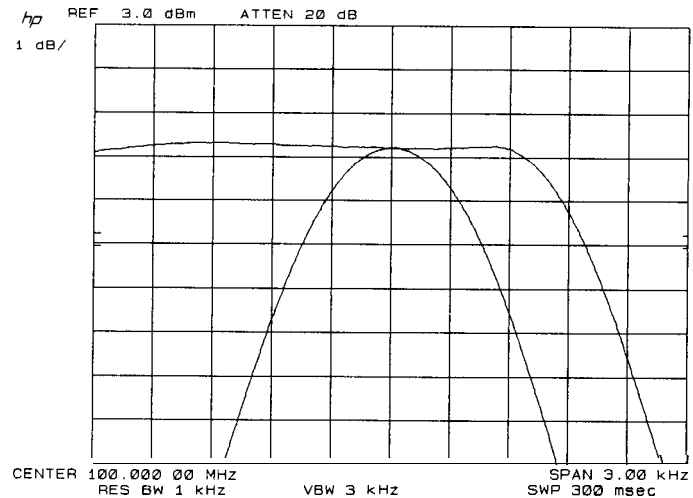

Figure 3-66. Typical Tuning Range of A7A2 100 MHz VCXO
- Adjust A7A2C4 100 MHz slowly through its full range while monitoring the display of the second spectrum analyzer. A7A2C4 100 MHz should provide enough adjustment range to shift the frequency of the 100 MHz VCXO a minimum of ± 300 Hz from 100 MHz (99.999700 MHz to 100.000300 MHz), and the output power should not vary by more than 1 dB within this range, as shown in Figure 3-66.